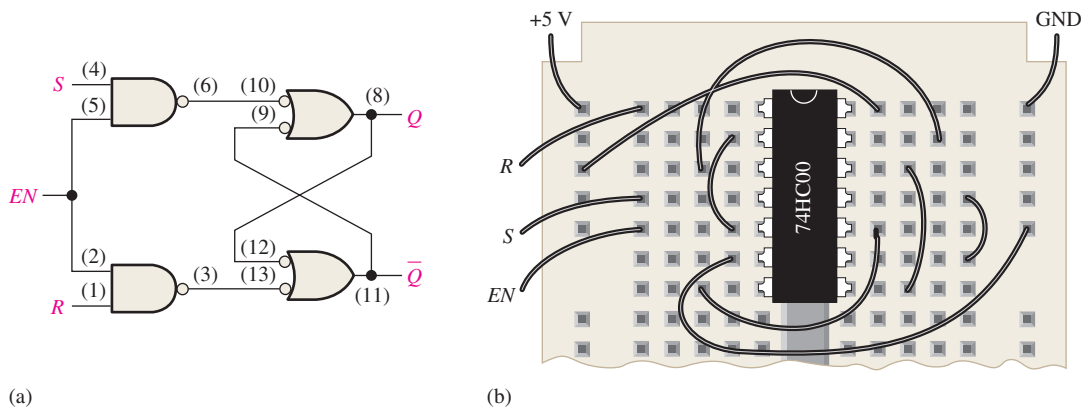

FIGURE 7-93
33. A 74HC00 quad NAND gate IC is used to construct a gated S-R latch on a protoboard in the lab as shown in Figure 7-93. The schematic in part (a) is used to connect the circuit in part (b). When you try to operate the latch, you find that the Q output stays HIGH no matter what the inputs are. Determine the problem.